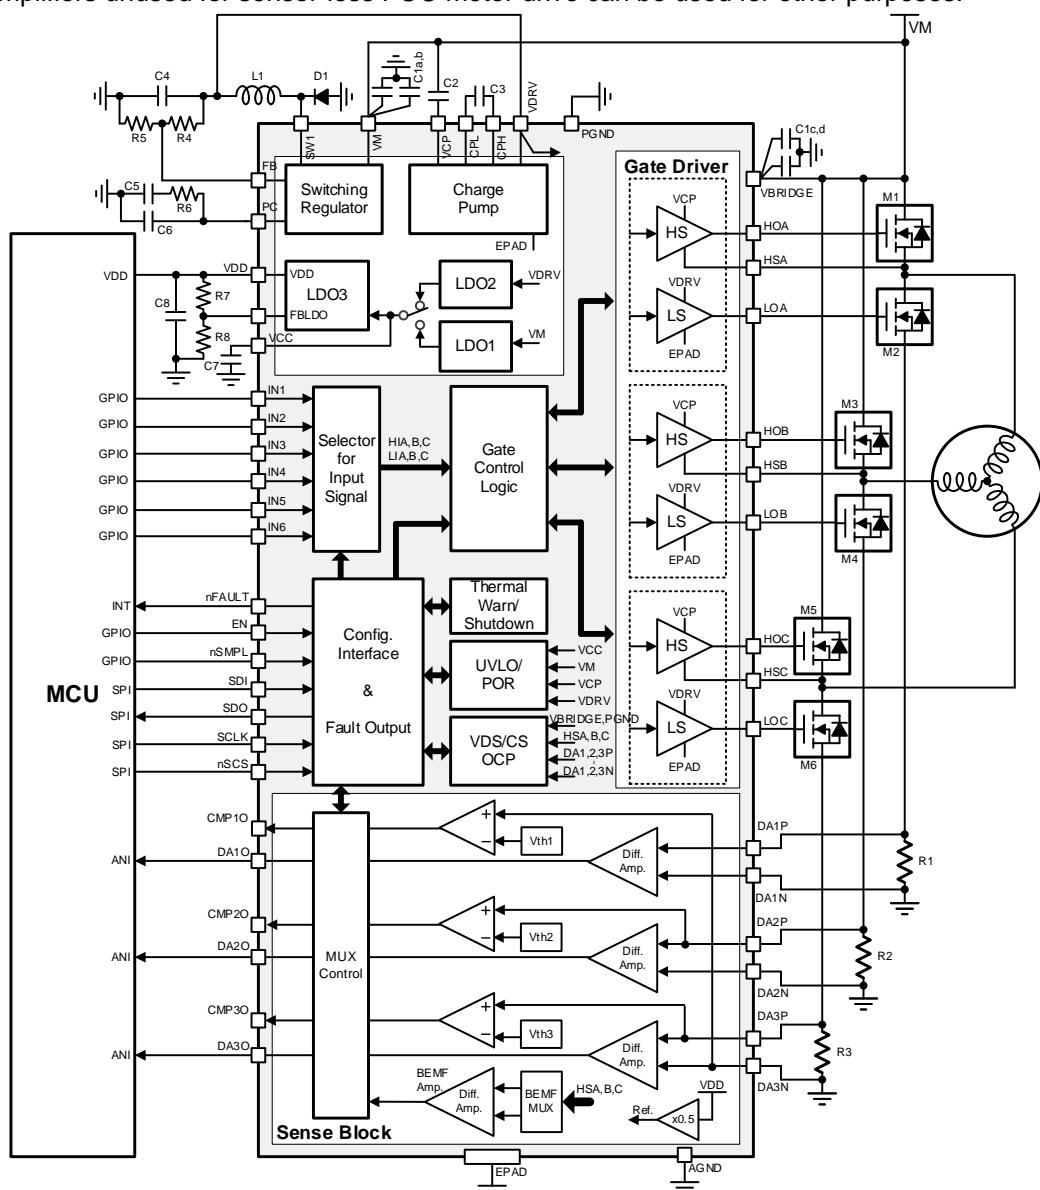

Figure 2-6 Simplified Application Block Diagram – 3 Shunt Sensor-less FOC Motor Drive
**Figure 2-6** shows an example of a simplified application block diagram for 3 shunt sensor-less FOC motor drive. In 3 shunt sensor-less FOC motor drive, the motor position is estimated from the 3-phase armature currents, and the motor rotation is controlled by PWM drive in the appropriate phase. The 3-phase armature currents can be detected by the 3-channels of differential amplifiers built into the smart gate driver and the A/D converter of the MCU. Therefore, no special external components are required except for the shunt resistors.
**Figure 2-6** is an example in which all three shunt resistors are connected to the differential amplifiers. In sensor-less FOC motor drive, the number of shunt resistors and amplifiers used depends on the control method, the differential amplifiers unused for sensor-less FOC motor drive can be used for other purposes.